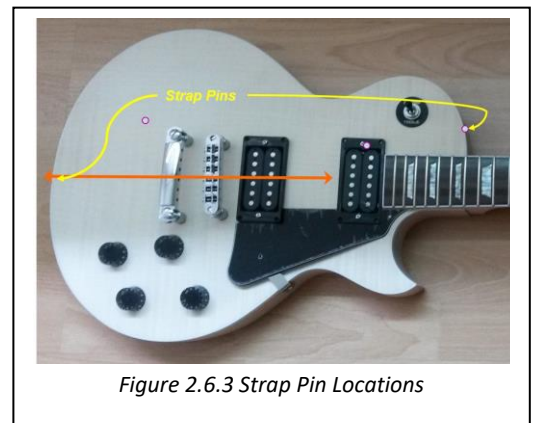

Figure 2.6.3 Strap Pin Locations
### 2.6.3 Check Strap Pins (Figure 2.6.3)
1. Mark the rear Strap Pin hole so that it is aligned with the center of the neck & pickups (Figure 2.6.3), and the forward Pin approximately 1" above the Neck cavity;